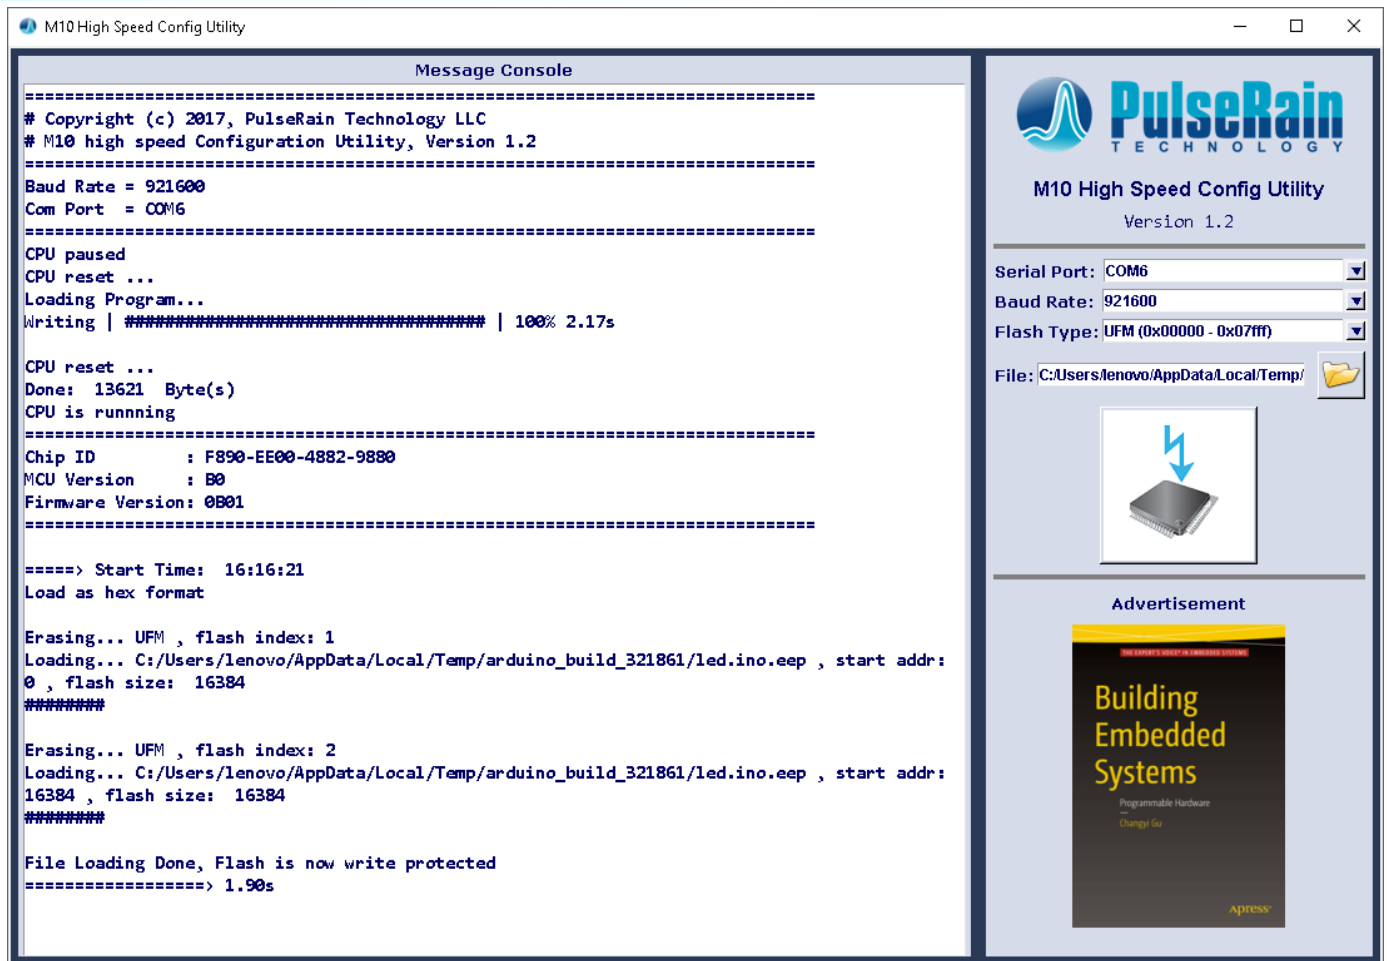

Figure 2-11 M10 High Speed Config Utility
- 5) Click the big square button on the right-hand side (with the picture of lightning strike). If everything is done right, you will see a message like "**File Loading Done, Flash is now write protected.**" at the end of flash programming, as illustrated in Figure 2-11.